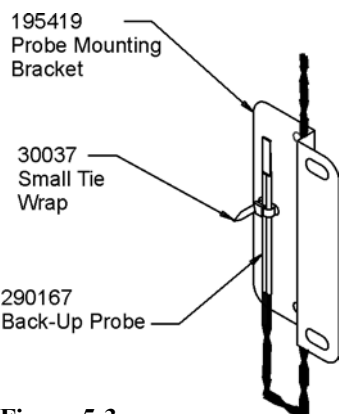

Figure 5-3
11. As shown in Figure 5-3, thread the small tie wrap through the openings in the front of the bracket. Secure the probe on the back of the bracket with the tie wrap.